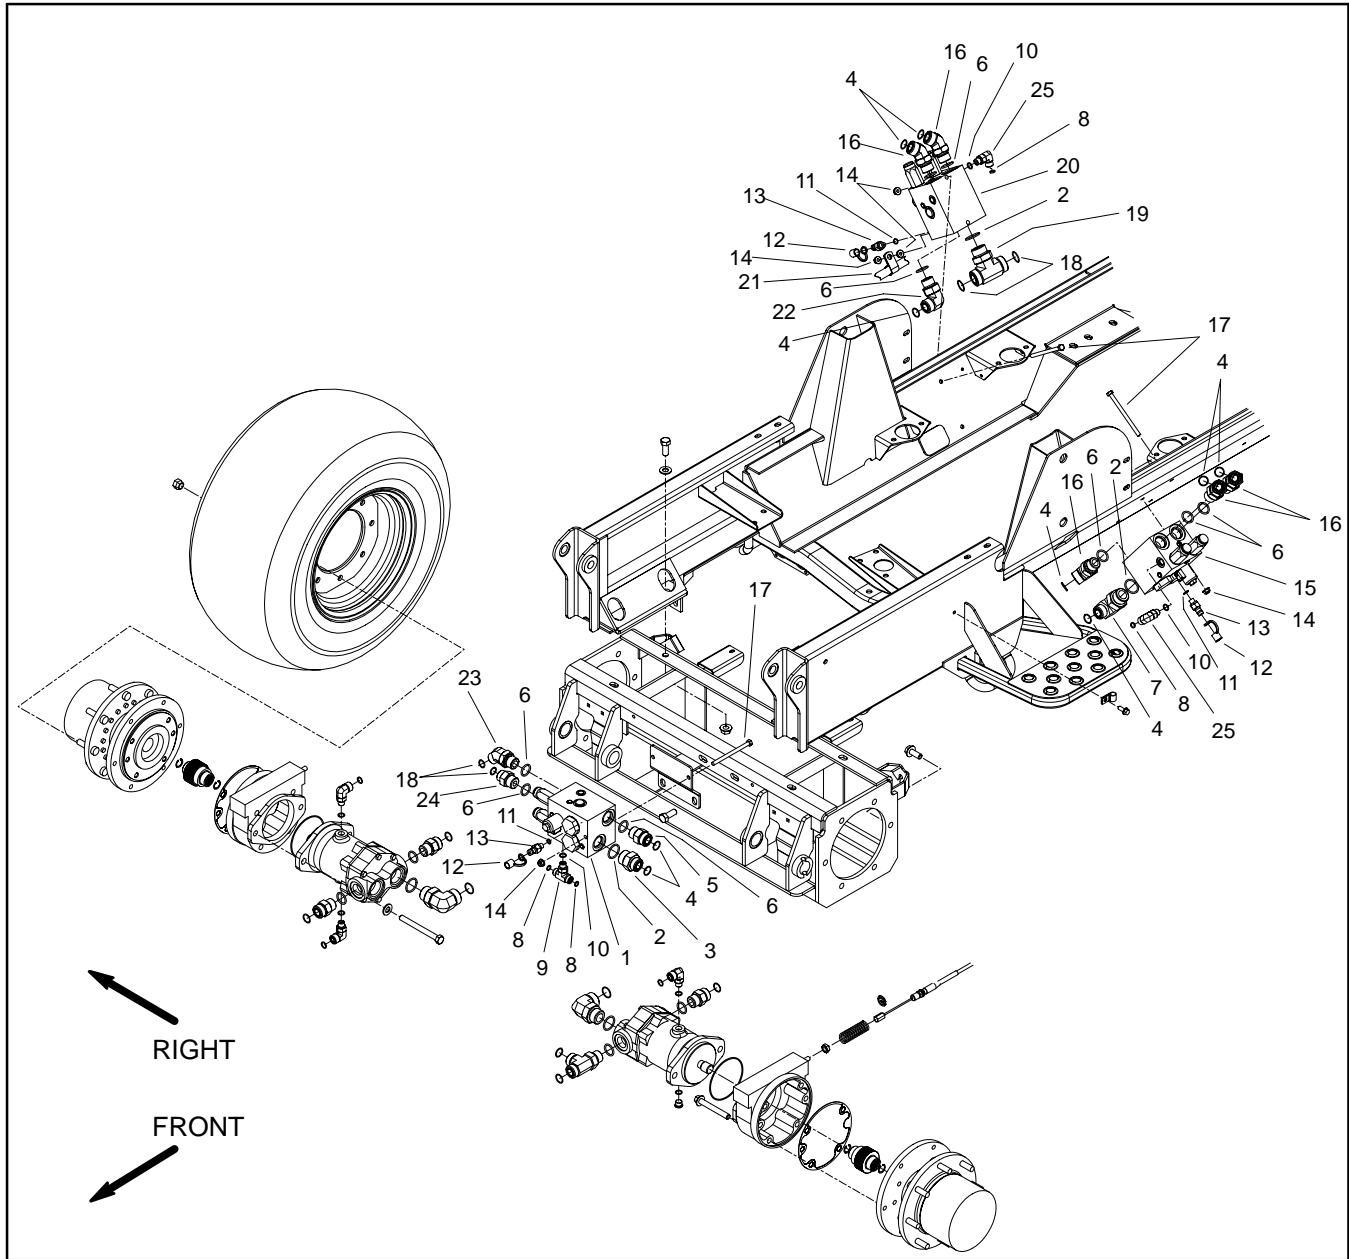

Figure 85
Removal (Fig. 85)
5. Remove hydraulic manifold from the frame using Figure 85 as guide.
Installation (Fig. 85)
2. Install hydraulic manifold to the frame using Figure 85 as guide.